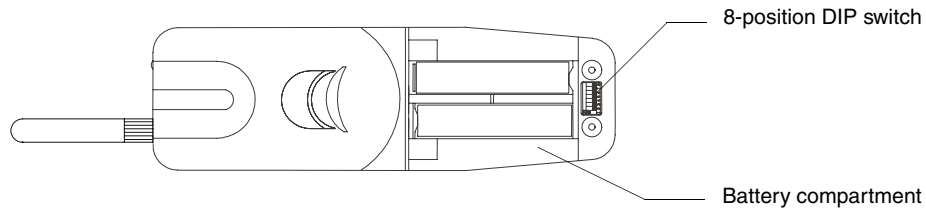

FIG. 6 Location of 8-position DIP switch and battery compartment locations
The TXC-MS(L) transmitter transmits IR or RF signals, according to how you set position 1 on the 8-position DIP switch. The DIP switch is located under the battery cover, on the back of the TXC-MS(L), as shown in FIG. 6. To open the battery compartment, slide the cover down and remove.